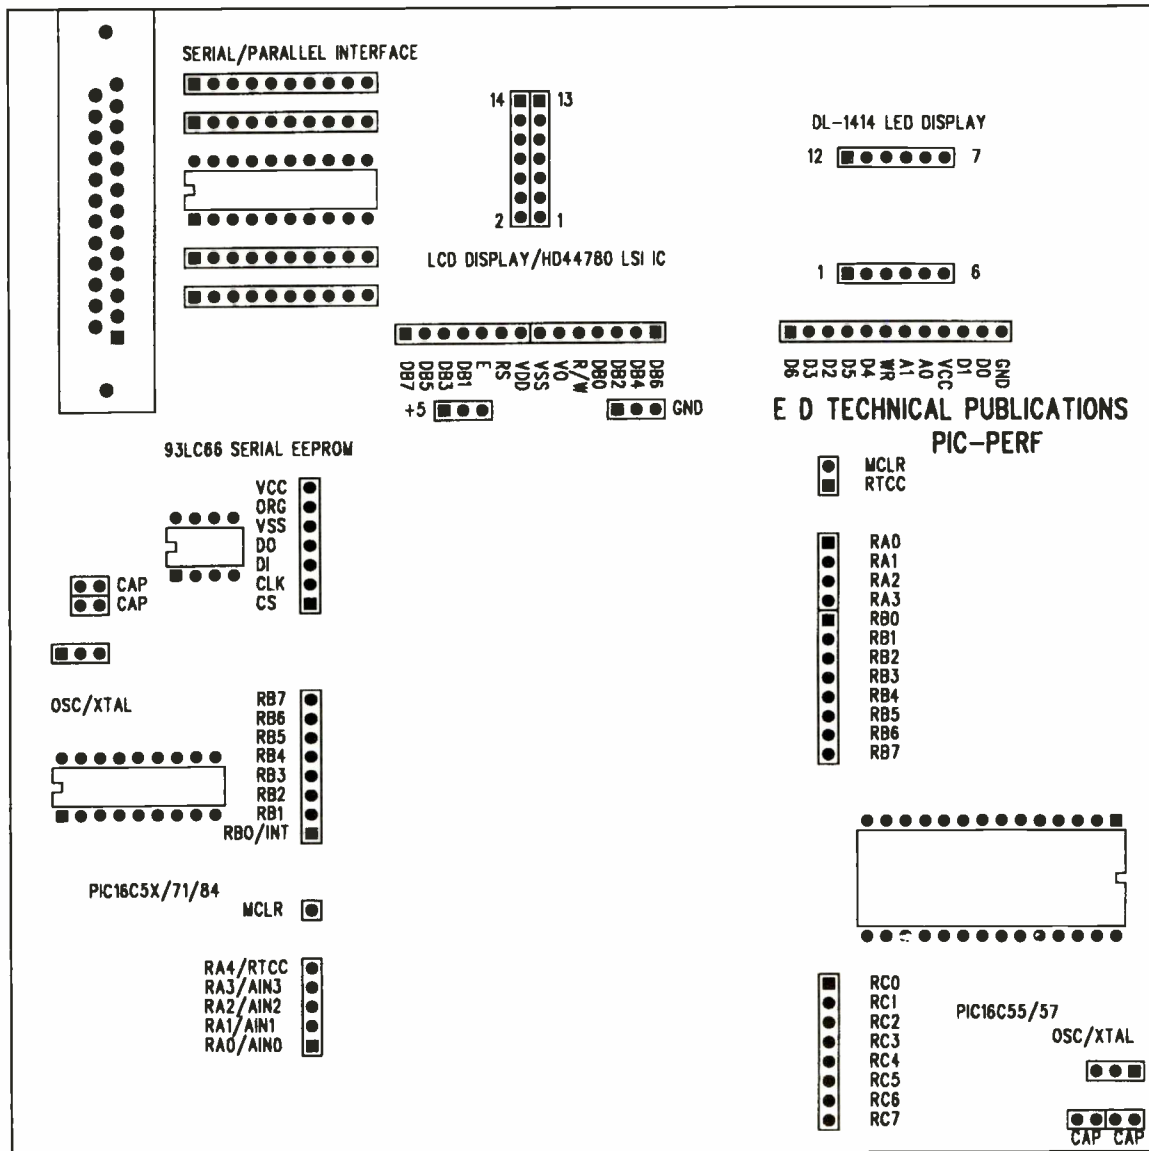

Fig. 8. Silk-screen layout for PIC-PERF breadboarding system described in text.
• **User-Defined Serial/Parallel Interface.** Rather than impose a fixed I/O interface, I thought it would be good to let you implement your own particular serial or parallel I/O interface. Taking a look at the upper-left of Fig. 8, you'll find a 25-pin D-shell connector layout and a 20-pin single layout surrounded by a total of four 20-pin single-in-line pads. With use of the experimenter's breadboard area and using hard-wired or machined-pin connections, you can fabricate just about any type of interface you desire.